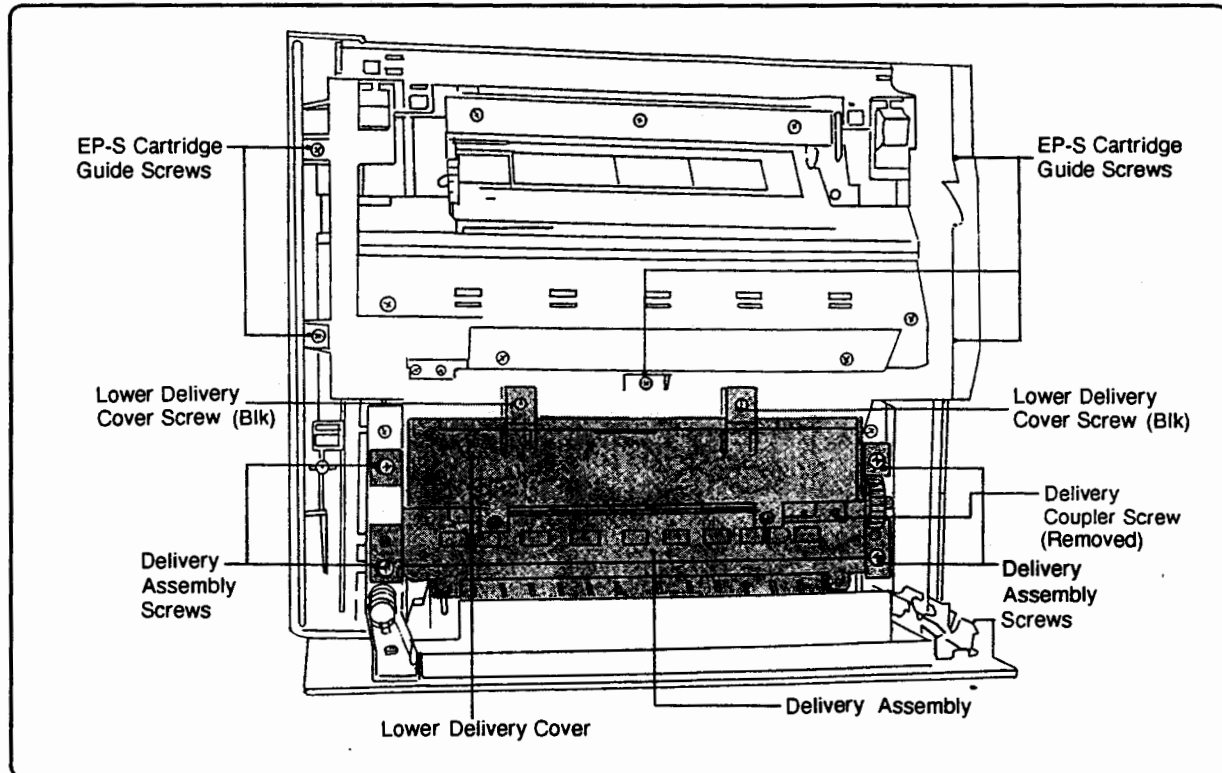

Figure 6-45. Delivery Assembly Removal
The Delivery Assembly (Figure 6-45) guides printed paper to the Face-Down (Top) Output Tray. Note that removal of the Delivery Assembly itself or the Output Static Eliminator will require separating the Top Cover Assembly from the printer.
6. Remove the Lower Delivery Cover screws (2, black) and Delivery Assembly mounting screws (4) (see Figure 6-45).
8. Detach the Lower Delivery Cover from the Delivery Assembly by removing the brass-colored screws (2).
3. Remove the Delivery Coupler Assembly mounting screw (1) and lift it out (see Figure 6-45).